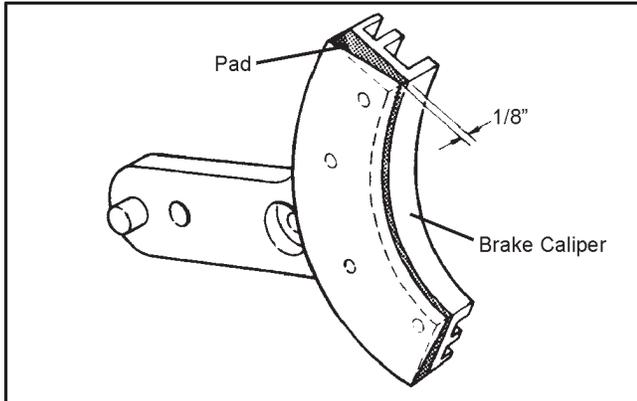

Figure 7-14. Measuring the distance between the brake disc and brake pad.
- worn to 3 mm (1/8") thickness as shown in Figure 7-14;